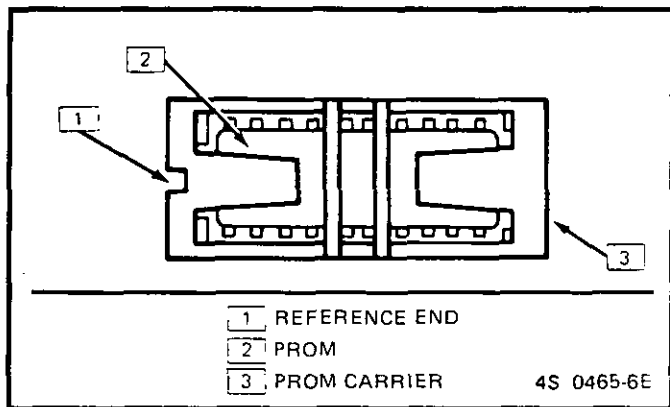

Figure C1-10 PROM in PROM Carrier
2. For correct reference of PROM in carrier, Figure C1-10